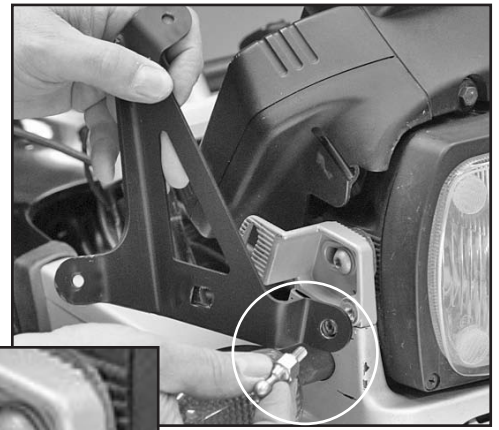

Figure 2
1. Install the Right Windshield Bracket (2) to the motorcycle with one Ball Stud (12). Tighten until Ball Stud is firmly seated. Bracket will pivot at this point. Repeat on opposite side of motorcycle. (1/2" Box Wrench) **Figure 2**
2. Insert a Carriage Bolt (10) through the Bracket from the outside.